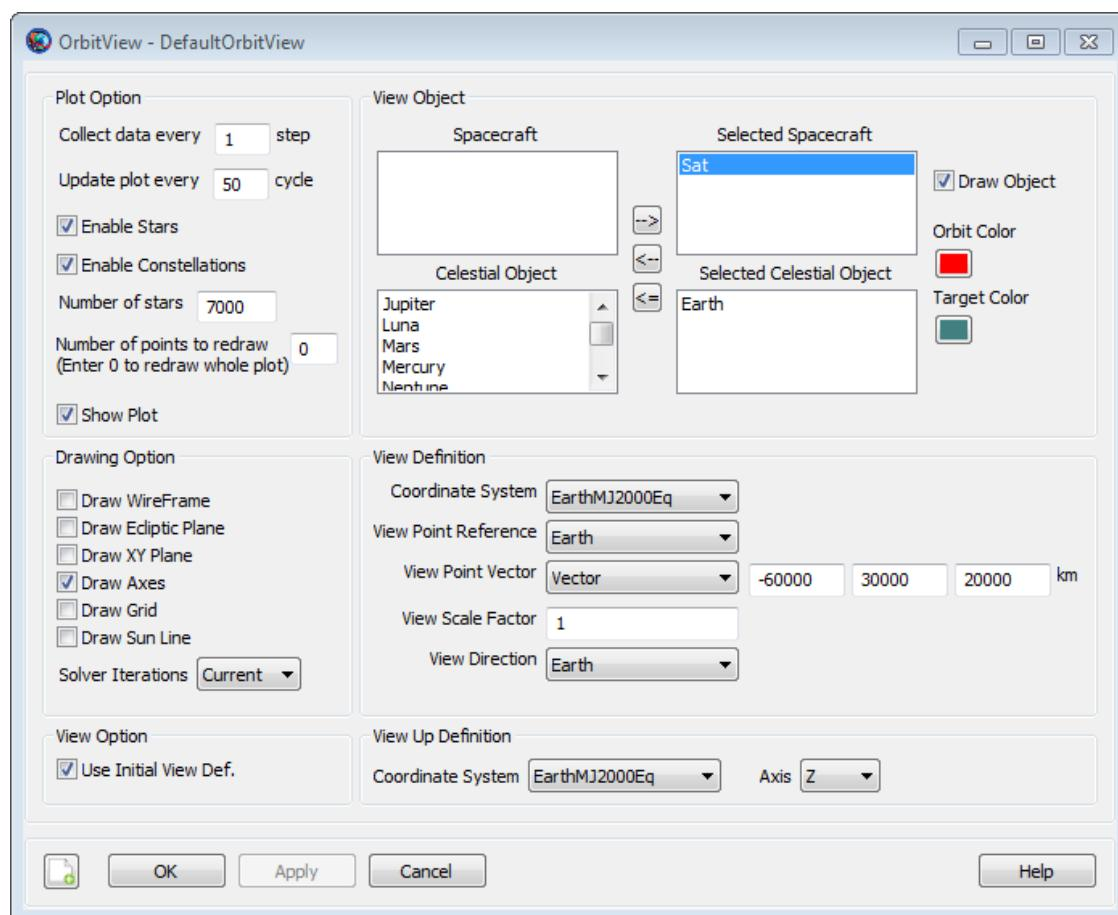

**Figure 13. Force Model Configuration**
9. Select **Use Solar Radiation Pressure** to toggle it on. Your screen should now match Figure 13.